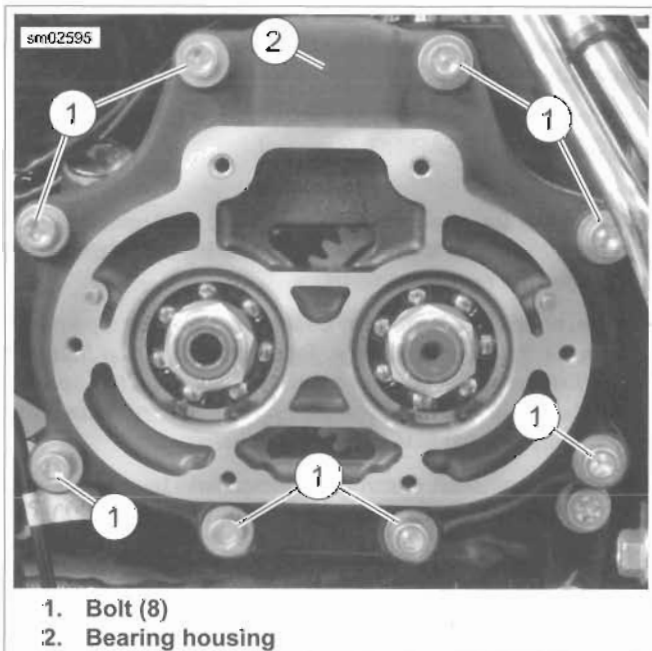

Figure 6-11. Bearing Housing Hardware
12. See Figure 6-11. Remove the transmission bearing housing: